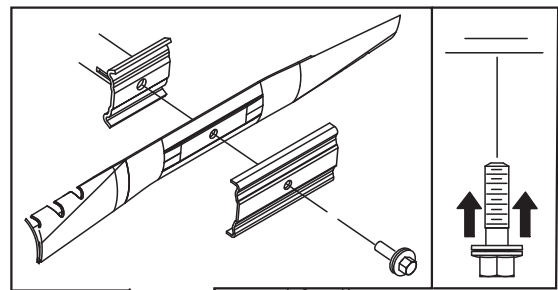

Figure 25
5. Install the new blade (turn the blade bolt clockwise) and all mounting hardware (Figure 25).